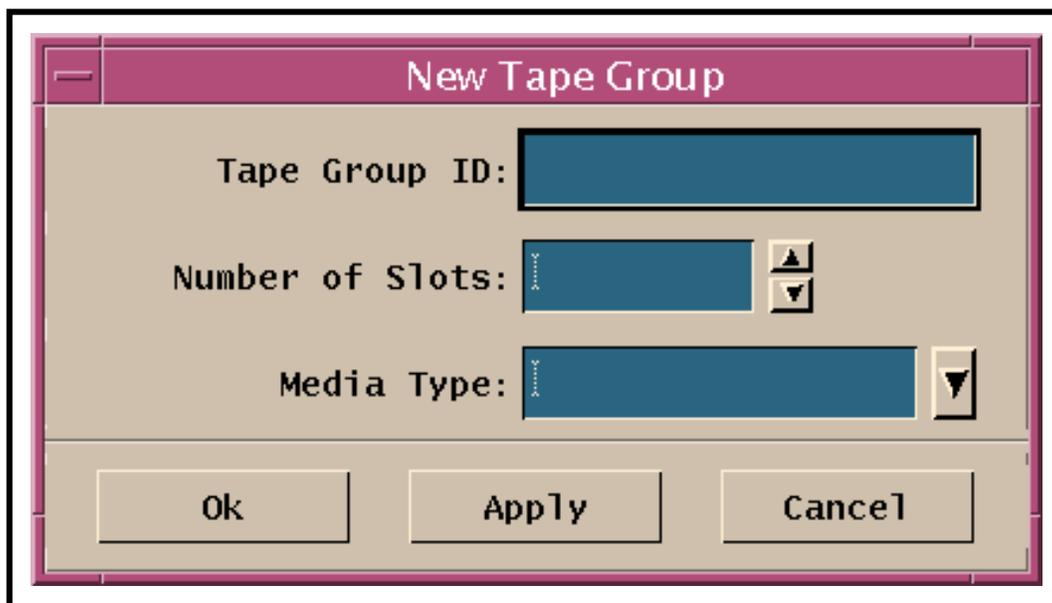

Figure 16. New Tape Group Window (Storage Management Control GUI)
- The **New Tape Group** window (Figure 16) is displayed.